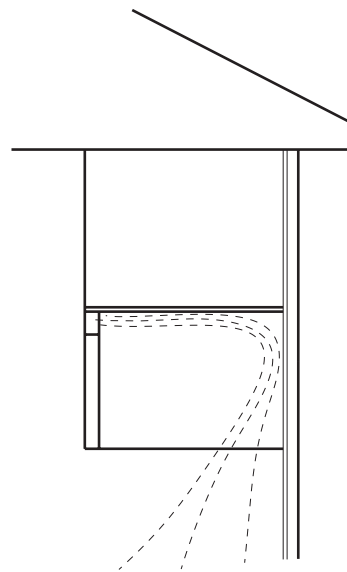

Fig. 1-2
b. Recirculating (Non-vented, Ductless) (Fig. 1-2)